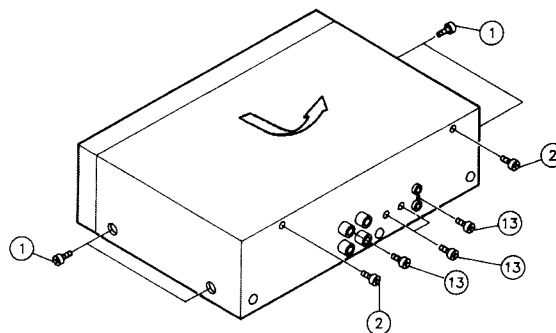

Fig. 2 - 1
1. Remove four screws ① retaining the top cover from both side.
2. Remove two screws ② retaining the top cover from the back side.
3. To remove the top cover ,slide in direction of allow and lift away (refer to Fig. 2 - 1).
◆ Front panel assembly (Fig. 2 - 2)